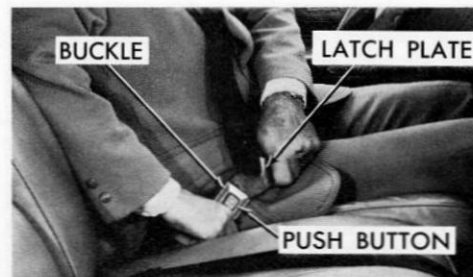

FIG. 1-16: LAP-SHOULDER BELT
- Adjust front seat to satisfaction of driver and sit erect and well back in seat, Fig. 1-16.